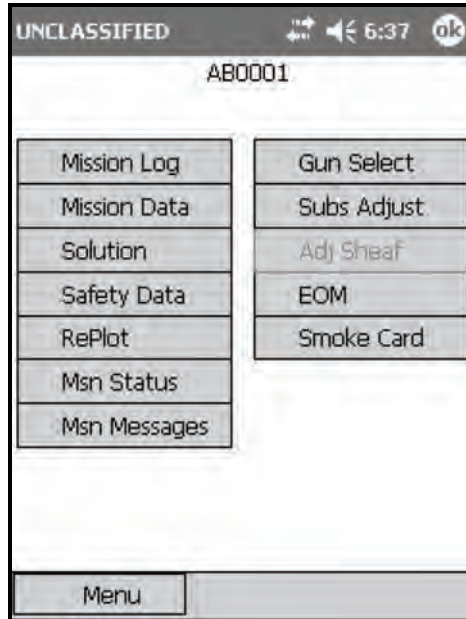

Figure 18-27. Digital Fire Mission: <Target> screen.
(17) Select Close.
(18) The Solution/Gun Orders screen displays.
- (19) Select the <Target> button.
- (20) The <Target> screen (Figure 18-27) displays.
NOTE: When operating in the digital mode, the <Target> screen displays two additional control buttons, Msn Status and Msn Messages (Figure 18-27).